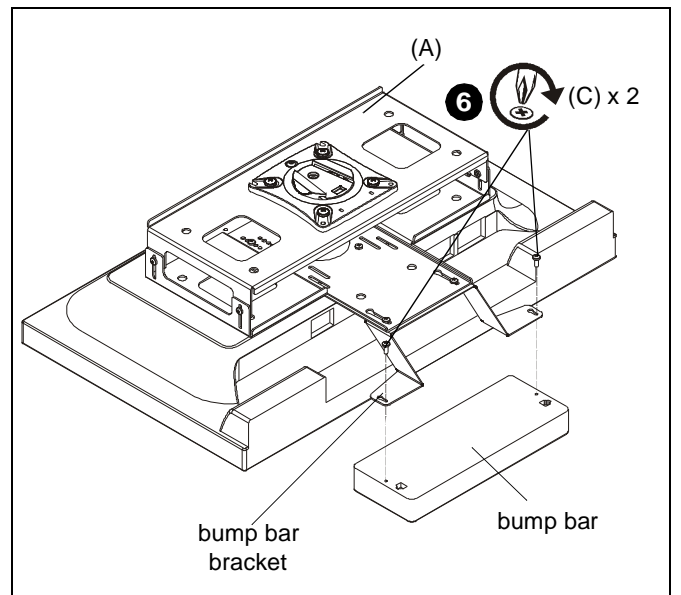

Figure 8
7. Use two M3 x 8mm Phillips pan machine screws (C) to secure bump bar to bump bar bracket. (See Figure 8)